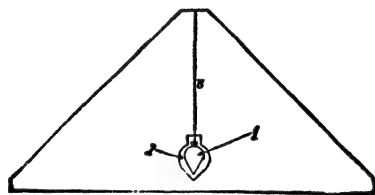

Fig. 35.
**NOTE**—If a spirit level cannot be had, the engineer can make a set level, as illustrated in Fig. 35. It consists of a triangular board, with one edge planed true, with a pencil mark at right angles to this edge and a plumb bob attached to it in the manner shown in Fig. 35.
NOTE.—It would be a good plan to reverse the level then, and see whether it is correct, if the line should not correspond with the level, after it has been turned end for end, the level is out of true, and the difference should be equally divided, this is done, referring to the figure, by raising the line on the low end, equal to one-half the amount it is too low, if it should be too low on the other end of the level, your assistant will have to lower it, till the distance between the end of the level and the line is reduced to one-half. See page 60, and Fig. 35.